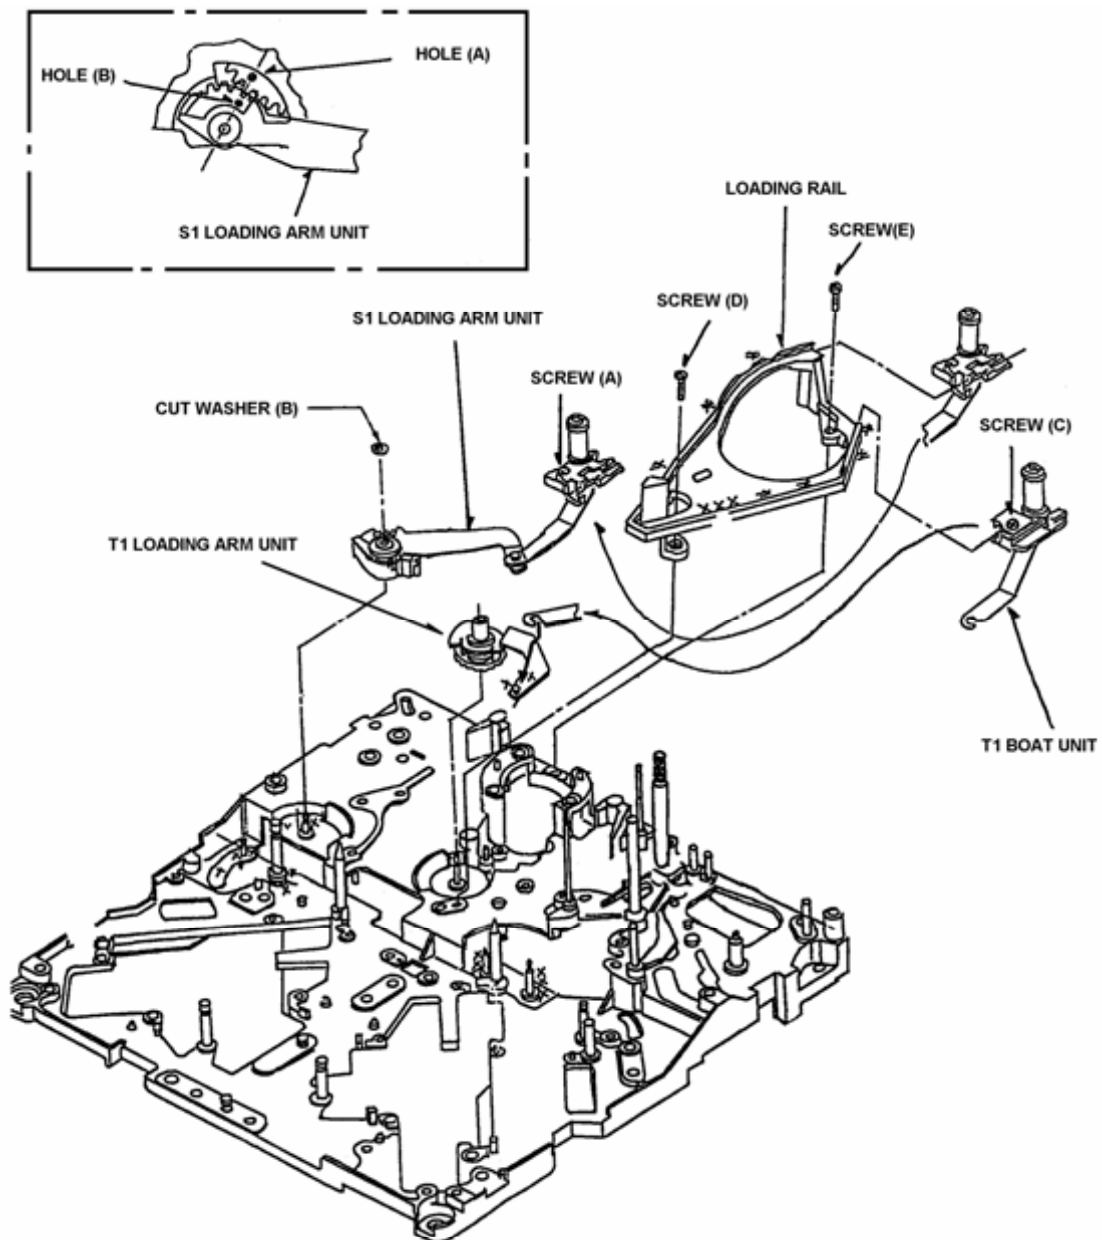

Figure 5-19-1
1. Remove the S5 Post Base Unit. (Refer to item 5-17)
2. Remove the Tension Arm Unit. (Refer to item 5-18).
3. Unscrew the screw (A) and remove the S1 Post from Loading Rail as shown in Figure 5-19-1.
4. Remove the Cut Washer (B) and remove the S1 Loading Arm Unit as shown in Figure 5-19-1.
Install and adjust so that the Hole (A) is parallel with Hole (B) as shown in Figure 5-19-1.
1. Unscrew the screw (C) and remove the T1 Post from Loading Rail as shown in Figure 5-19-1 on the previous page.
2. Hang off the T1 Boat Unit from T1 Loading Arm Unit as shown in Figure 5-19-1.